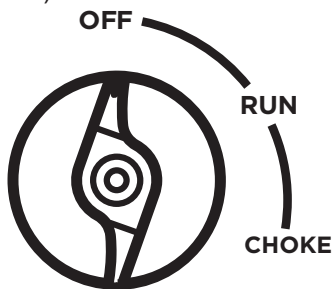

Figure 10: Turn Engine/Fuel Switch to OFF Position
3. Move the engine control switch to the **OFF** position (see Figure 10).
If there is an emergency and the inverter must be stopped quickly, move the engine control switch to the **OFF** position immediately (see Figure 10).